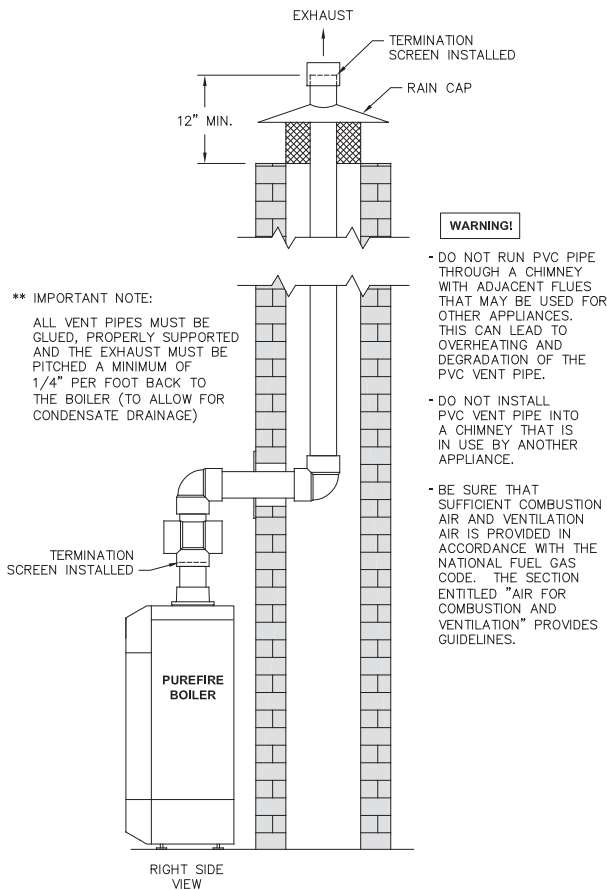

Figure 3.10: Venting with a Chimney Using Inside Air
- Figure 3.10 shows an option for routing the exhaust through an unused chimney with the combustion air supplied from inside the building. Be sure to note the requirements for combustion air as listed under Section 1.D. "Combustion and Ventilation Air". These requirements are in accordance with the National Fuel Gas Code.